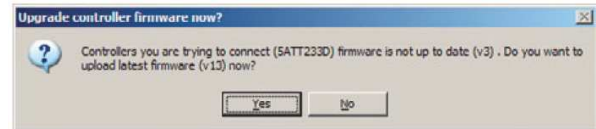

Figure 18. Dialog, asking whether to update firmware.
1. Answer “Yes” when asked about update dialog is shown in Figure 18. “Firmware Upgrade” window will appear. Click “Upgrade Firmware” button: